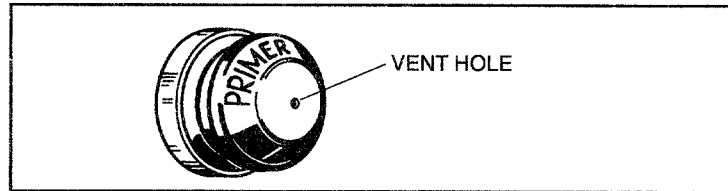

Figure 4
- Push primer three times (see Figure 4). ALWAYS COVER vent hole when pushing primer. See warm engine restart "NOTE" above.
- Push primer three times, making sure to cover vent hole when pushing (see Figure 4).